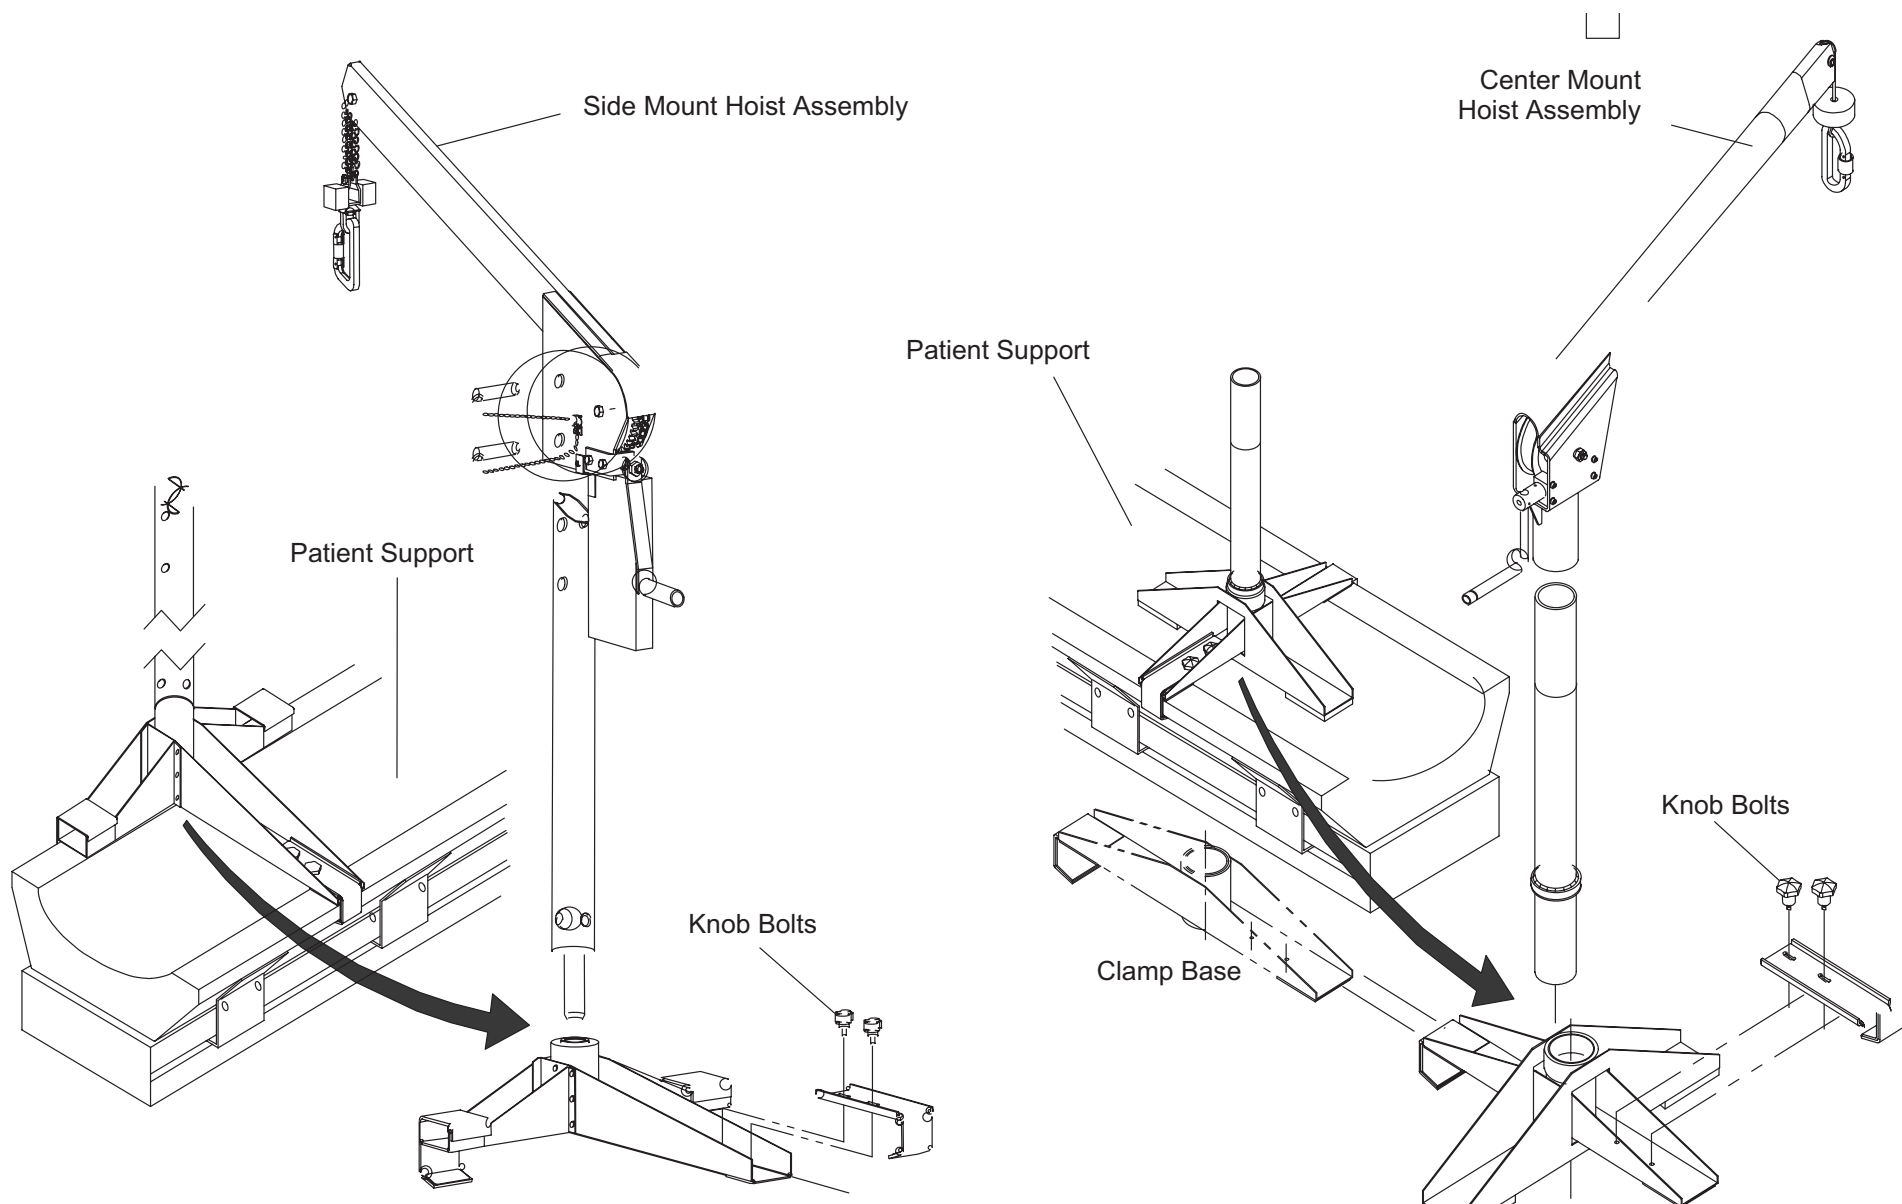

FIGURE 249 HOIST ASSEMBLY
4. Secure Hoist Assembly to Patient Support. Make sure Clamp Base is seated firmly in position on Patient Support and that Knob Bolts are screwed in securely. See Figure 249.